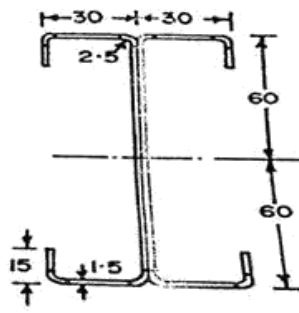

Figure 5
6. The Figure 5 below shows the section of a beam which is laterally supported at an interval of 1.5 m. Taking $C_b=1.0$, Determine the allowable bending moment for the section. Take $f_y=235$ N/mm² and $E= 2 \times 10^5$ N/mm² [12M]